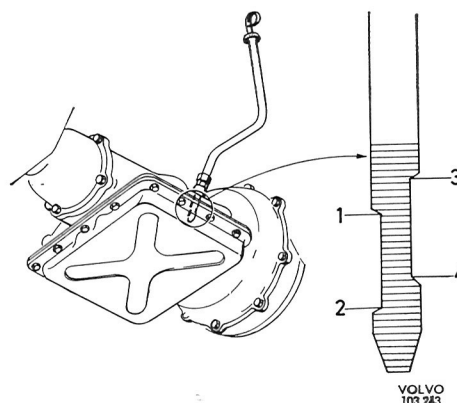

Fig. 1-5. Checking oil level
When checking the oil level, make sure that the vehicle is on level ground. Move the selector lever to position "P" and let the engine run at idle. The filler pipe with dipstick is located in front of the bulkhead on the right-hand side of the engine. Wipe off the dipstick with a cloth or piece of paper. Do not use waste or fluffy rags. Insert the dipstick, pull it up and check the oil level, see Fig. 1-5.
**Note that there are different levels for a warm and cold transmission.** For a warm transmission, which is the case after driving about 8—10 km (5—7 miles) the upper section applies (3 and 4, Fig. 1-5). The lower section (1 and 2, Fig. 1-5) applies to a cold transmission. The text on the dipstick will also remind you of this.